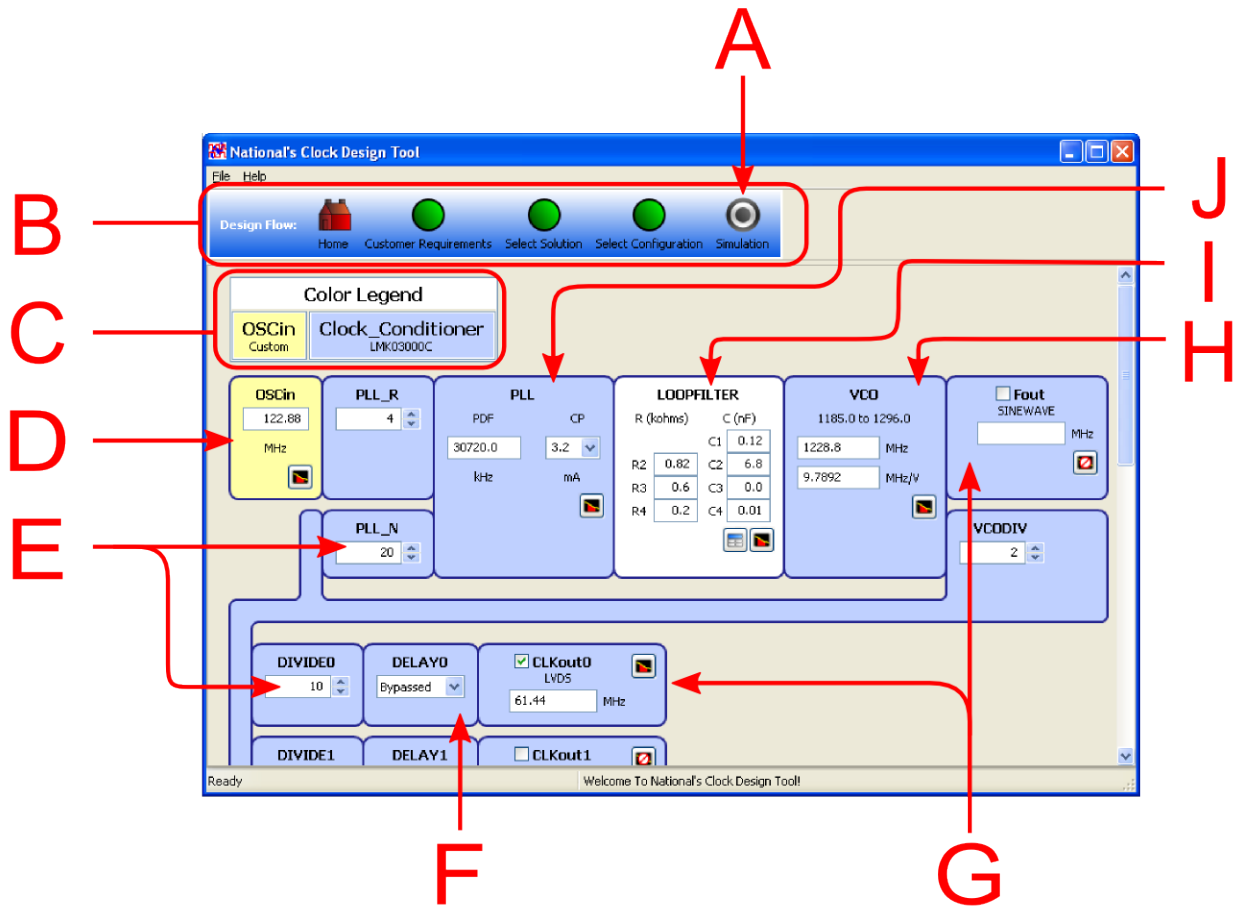

Figure 9: Simulation Screen
The simulation screen is displayed after the select configuration screen in the design flow. The black and white dot icon (A), Figure 9, shows we are currently at the simulation screen. This is the final step in the design flow. User simulation may now begin.
Shown as (D) in Figure 9.
Shown as (E) in Figure 9. Also: PLL_R, VCODIV, DIVIDE1
Shown as (J) in Figure 9.
Shown as (I) in Figure 9.
Shown as (H) in Figure 9.
Shown as (F) in Figure 9.
Shown as (G) in Figure 9.
The phase noise display screen is displayed when the user clicks the phase noise display button (Figure 14) from the simulation page (Figure 9). When the phase noise display not allowed button is visible (Figure 15), it indicates the user must first enable the output before phase noise simulation is allowed.